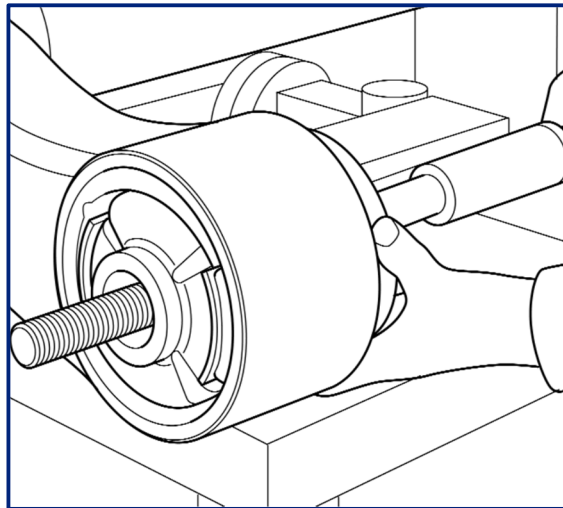

Fig 18
11. Press the Front Bush Tool (FBT) "C" against the pivot bush and insert the threaded bar "G". Fit washer "H" and nut "A" to draw bar and secure to FBT "C" (Fig 18).